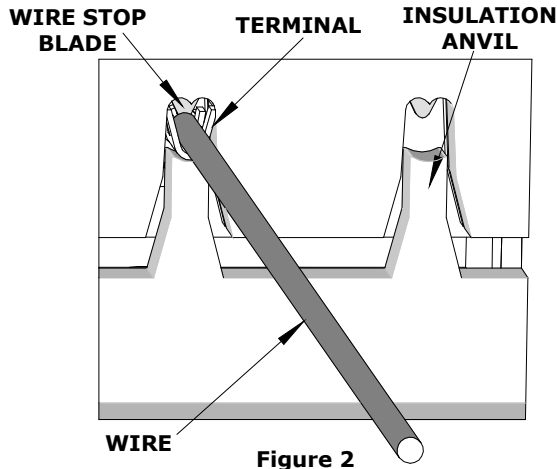
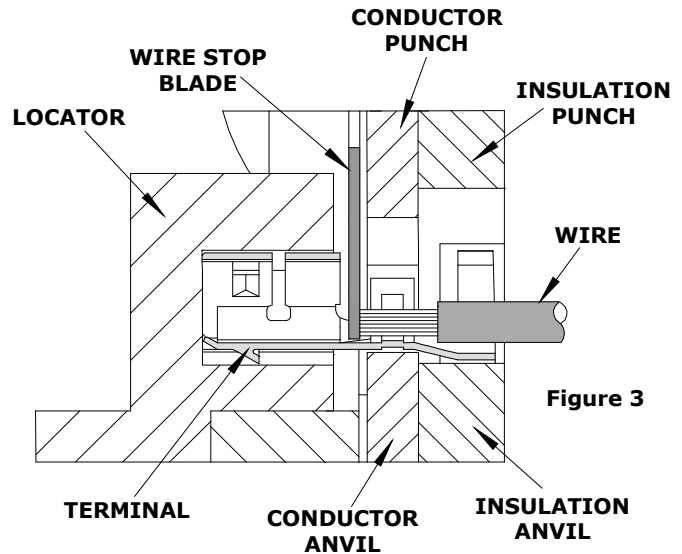

Figure 2
Figure 3
6. Slide the pre-stripped wire into the terminal. Make sure to aim the wire brush toward the tip point on the wire stop blade. See Figure 2. Align the wire so that it is parallel and sitting into the terminal. Maintain a light and constant pressure on the wire that is seated in the terminal at all times. (Do not let go of the wire.) Be sure to hold the wire and terminal in place until the terminal is fully crimped. See Figure 3.